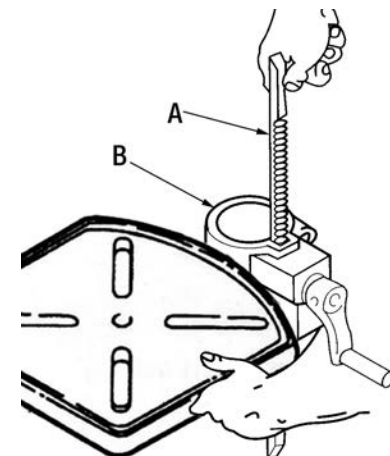

FIGURE 9
7. With the long smooth end of the rack (A) Fig.9 pointing upwards, slide rack down through the large round opening in the table support (B). Engage rack in gear mechanism found inside the opening of the table support.